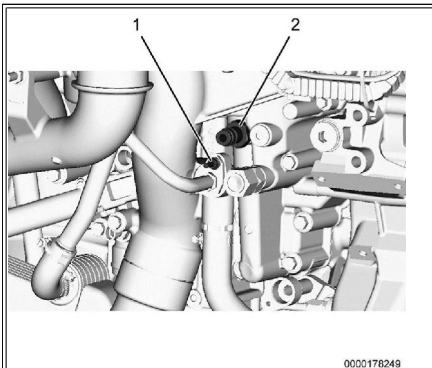

Figure 6: M6 Stud Bolt.
16. Install M6 stud bolt (Figure 6, Item 1). Using torque wrench, tighten stud bolt to 10 lb-ft (13 N•m).
17. Using P-80[®], lubricate adapter fitting (Figure 6, Item 2).